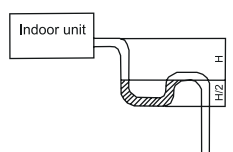

Fig.18
(5). If the air flow if indoor unit is high, the might cause negative pressure and result in return suction of outdoor air. Therefore, U-type water trap shall be designed on the drainage side of each indoor unit.(Fig.18)